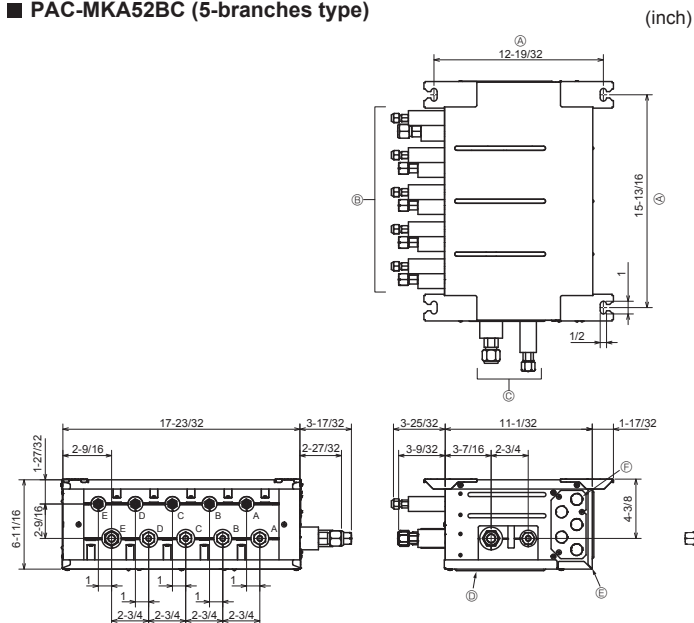

Fig. 4-2
■ PAC-MKA52BC (Fig. 4-2)
- (1) Install the suspension bolts (procure locally) at the specified pitch (Fig. 4-2, 4-3).
- (2) Fit the washers (①, ②) and nuts (procure locally) to the suspension bolts.